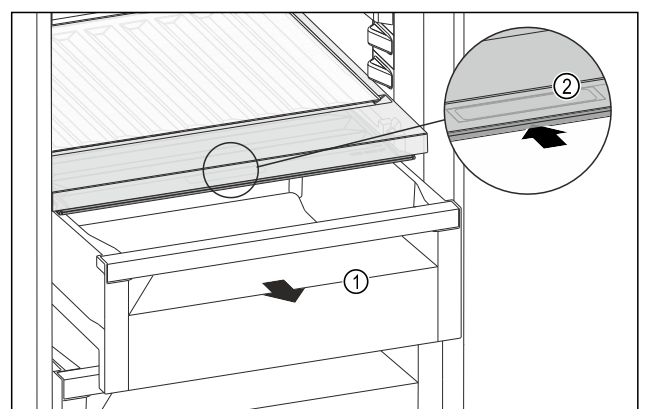

Fig. 145
- ▶ Pull out the drawer *Fig. 145 (1)*.
- ▶ Grasp the recessed grip *Fig. 145 (2)* on the compartment lid and push the compartment lid backwards at the same time.